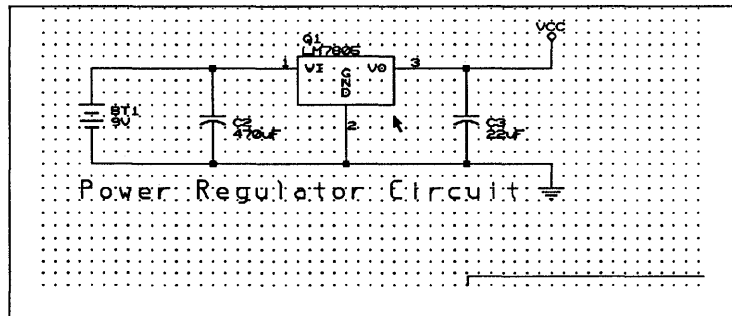

Figure 4-1. Power regulator circuit schematic.
Figure 4-1 shows the schematic diagram of the power regulator circuit you create in this chapter. Refer to this Figure for placement and orientation information while performing the exercise.
3. The parts menu displays. Select an LM7805 (an IC regulator) and place it at location (15.00, 12.50), as shown in figure 4-1.
4. By now you should be experienced at placing parts. Get the capacitor and place one on each side of the regulator, as shown in figure 4-1.
5. Now get the ground symbol (GND) and place it in the location shown in figure 4-1.
3. If you look closely at the part, you'll notice that the pin 1 end of the part has a long heavy line. The pin 2 end has a shorter heavy line. The long heavy line indicates the positive terminal of the battery. As shown in figure 4-1, you want the positive terminal up, so rotate the symbol to this orientation (**Down**), and place it on the worksheet.
Compare your worksheet with figure 4-1. In this section, you learn how to draw multi-segment wires in one operation. A multi-segment wire is a single wire that changes direction several times.
7. Now, connect wire segments between the remaining components as shown in figure 4-1. Be sure to **Begin** and **End** each wire segment at the end of a component pin, not within the body of the component.
8. Using the **PLACE Junction** command, place junctions in the circuit at the five locations shown in figure 4-1.
3. Now move the image of the power symbol until it rests on the end of the wire shown in figure 4-1 and select **Place**.